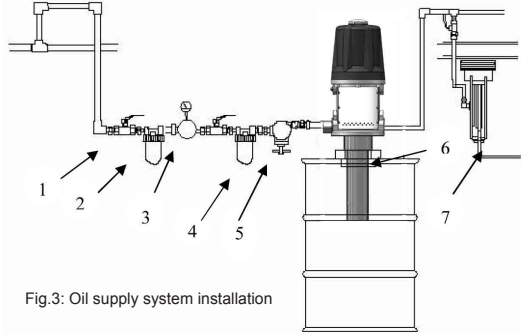

Fig.3: Oil supply system installation
- Put the pump into lock adapter (Fig .3 Parts 6), Install to the trolley.
- Install cut-off valve (Fig3. Part1).
- Install filter (Fig 3. Part 2).
- Install regulator which control the speed and adjust the air pressure (Fig3. Part3).
- Install lubricator which with self-lubricate (Fig3. Part 4).
- Install control valve which control flux, When the speed is too fast, pump will be self-close automatic to avoid pump be damaged (Fig.3 Parts5).